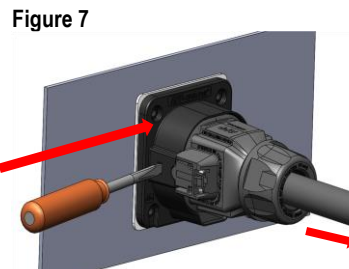

Figure 7
- i. Insert a flat head screwdriver into the slot on the latch and apply pressure. (see figure 7)